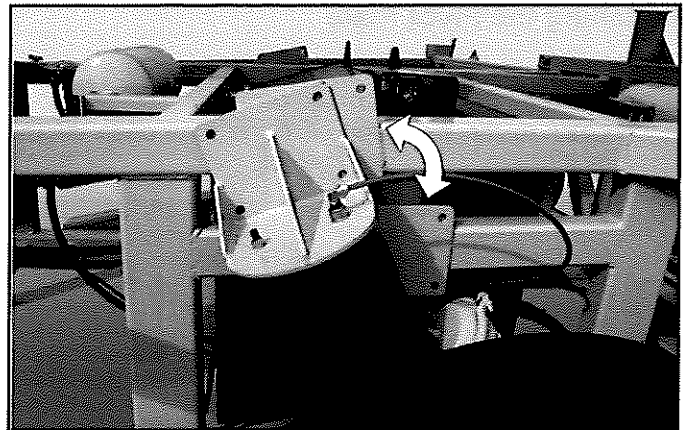

Figure 8
3. Using appropriate equipment, raise the tag axle (Figure 8).